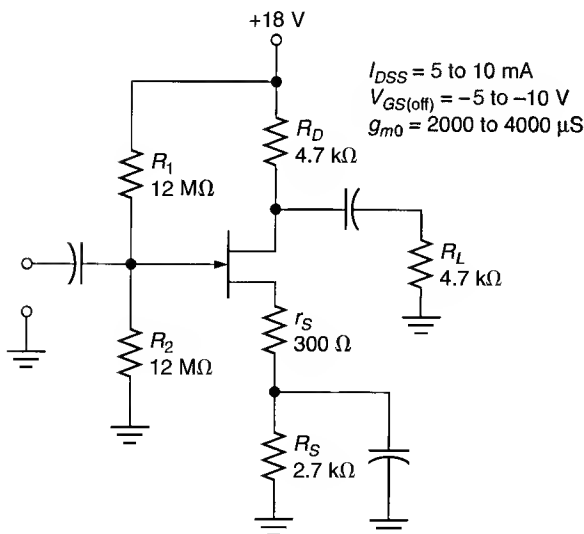

FIGURE 12.64
35. Determine the range of A_v values for the swamped amplifier shown in Figure 12.64.